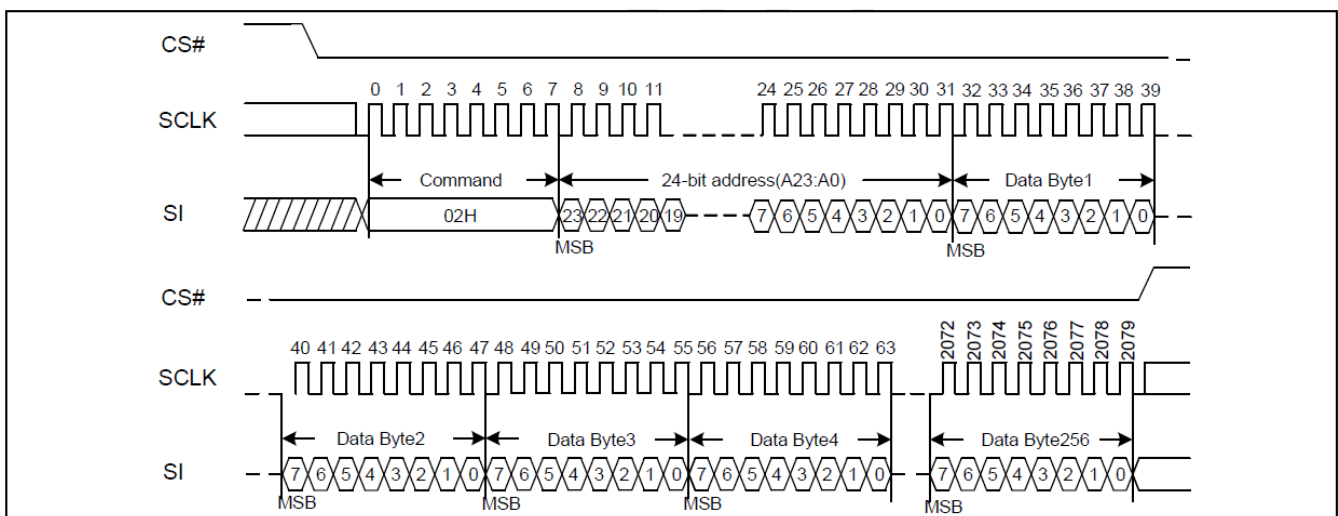

Figure7. Page Program Sequence Diagram
The Page Program (PP) command is entered by driving CS# Low, followed by the command code, three address bytes and at least one data byte on SI. If the 8 least significant address bits (A7-A0) are not all zero, all transmitted data that goes beyond the end of the current page are programmed from the start address of the same page (from the address whose 8 least significant bits (A7-A0) are all zero). CS# must be driven low for the entire duration of the sequence. The Page Program command sequence: CS# goes low sending Page Program command → 3-byte address on SI → at least 1 byte data on SI → CS# goes high. The command sequence is shown in Figure7. If more than 256 bytes are sent to the device, previously latched data are discarded and the last 256 data bytes are guaranteed to be programmed correctly within the same page. If less than 256 data bytes are sent to device, they are correctly programmed at the requested addresses without having any effects on the other bytes of the same page. CS# must be driven high after the eighth bit of the last data byte has been latched in; otherwise the Page Program (PP) command is not executed.